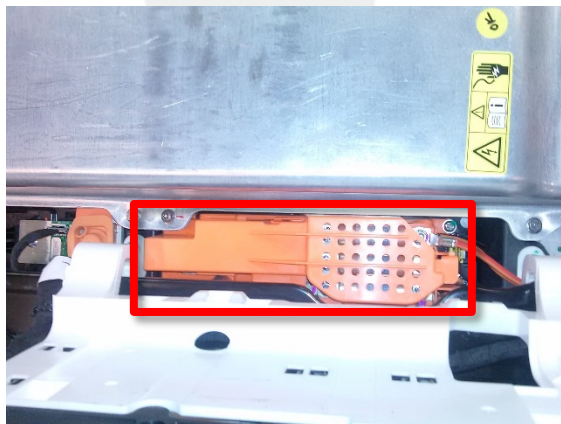

Figure 9
17. Raise the high voltage controller vertically, and then remove the fuse access insulator (Figure 9).
21. Install the fuse access insulator, and then lower the high voltage controller (Figure 9).